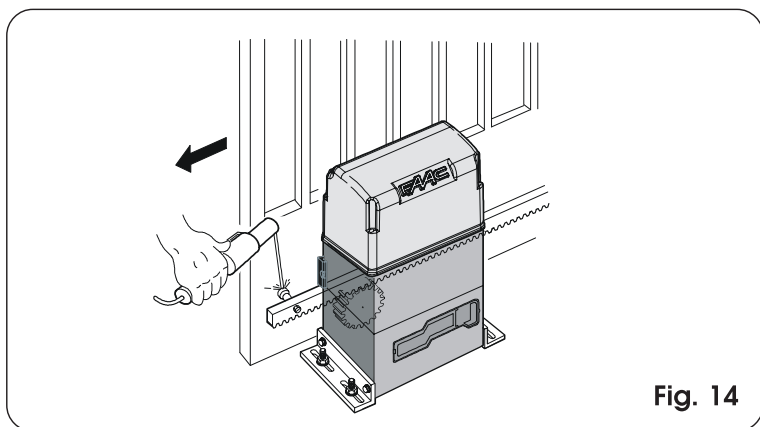

Fig. 14
- 3) Lay the first piece of rack level on the pinion and weld the threaded pawl on the gate as shown in Fig. 14.